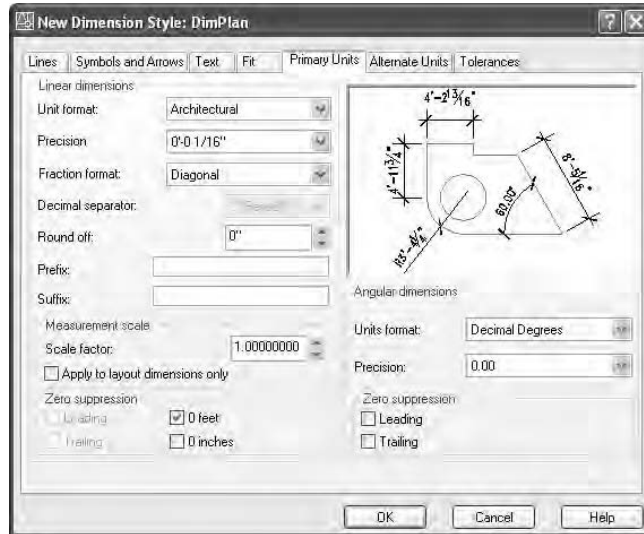

FIGURE 11.7: The Primary Units tab after changes have been made
1. Click the Primary Units tab and take a peek ahead at Figure 11.7 to see how it's organized. There are two areas: Linear and Angular Dimensions. Within each of these areas are a few settings and one or two nested areas.
3. In the Angular Dimensions area, leave Decimal Degrees as the Units Format, and change Precision to two decimal places, as you did for the basic drawing units in Chapter 3. For now, leave the Zero Suppression area as it is. After these changes, the Primary Units tab will look like Figure 11.7.